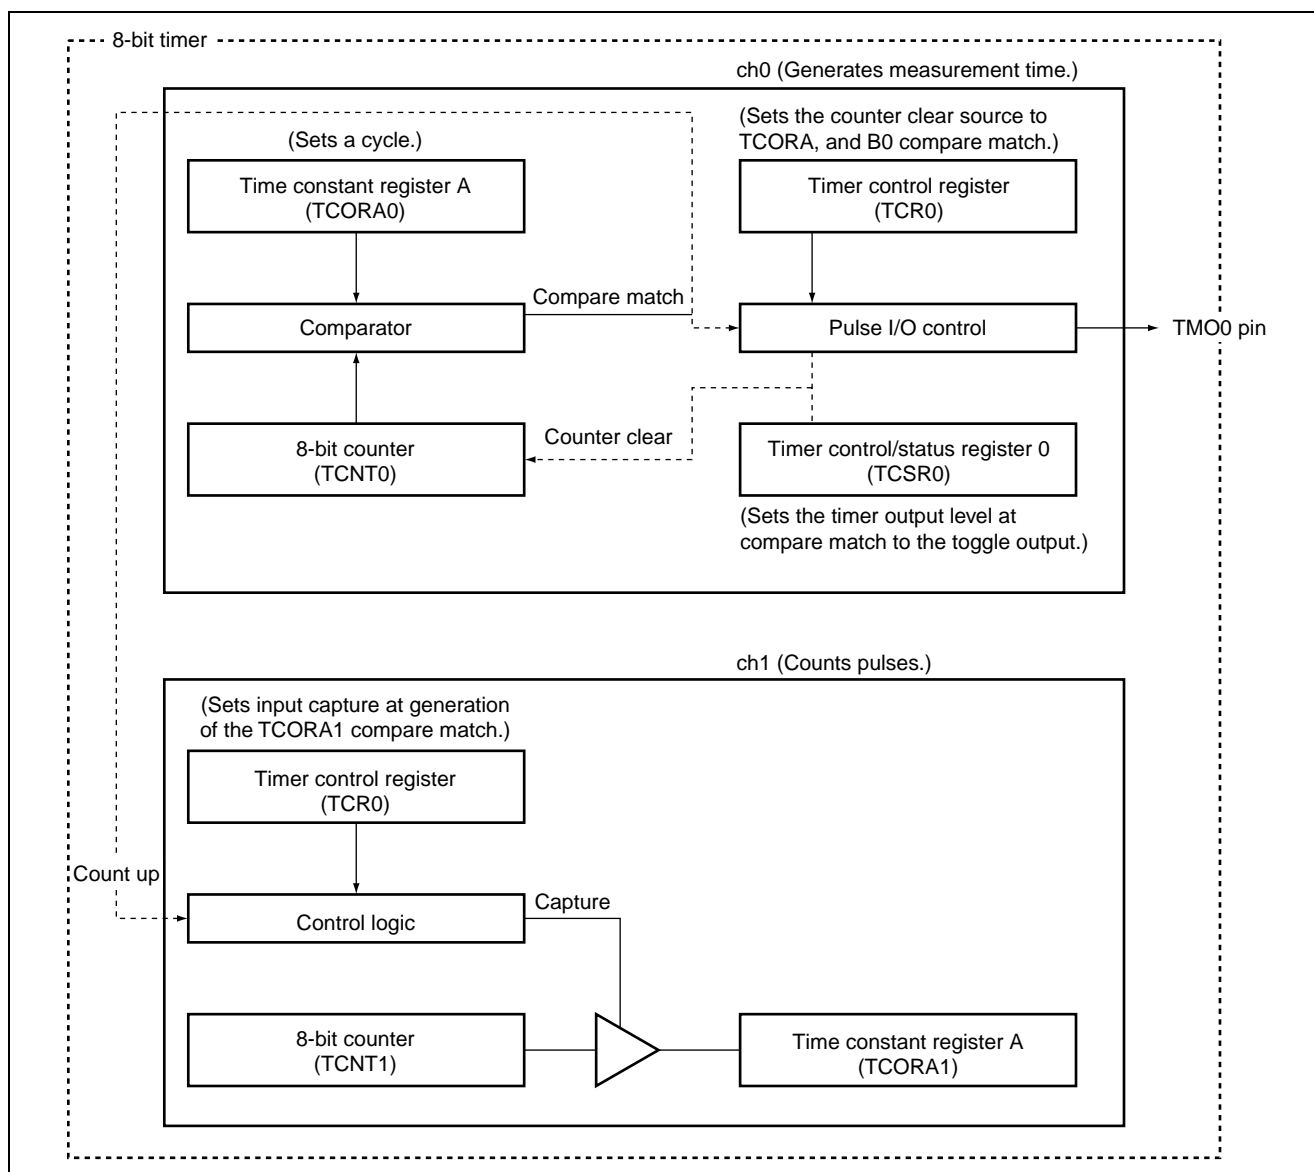

Figure 2 Output Pulse Count Block Diagram
1. The block diagram of the 8-bit timer to be used by this sample task is shown in figure 2. This sample task uses the following functions:
- This sample task uses the functions as shown in figure 2 to count pulse rising edges.